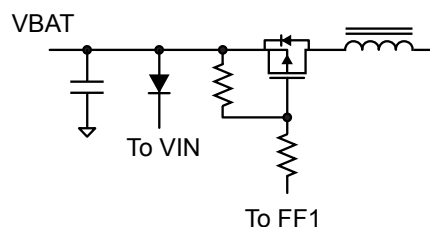

Figure 3. Example of a supply isolation MOSFET
The FF1 output can also be used with pull-up resistors and a P-channel MOSFET in the supply, to isolate the switching elements and the load from the supply. This MOSFET should be connected, as shown in figure 3, with the source connected to the supply and the drain connected to the inductor of the converter.
**Reverse Supply Protection** Protection for the A6266 is provided by an external low current diode between the supply and the VIN pin, as shown in the Functional Block Diagram section. The isolation MOSFET shown in figure 3 is only able to provide isolation when the supply polarity is correct. However, with an additional P-channel MOSFET, it is also possible to
In the complete circuit, consideration should be given to limiting the maximum gate-source voltage of the FET. If the supply voltage is likely to exceed 20 V, then either: a Zener clamp must be added in parallel with the gate-source resistor to prevent damage to the FET, or a second resistor added as shown in figure 3.